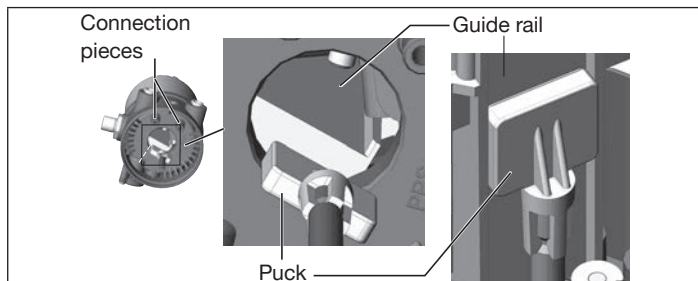

Fig. 6: Aligning the puck
1. the puck can be inserted into the guide rail of the control head (see “Fig. 6”) and